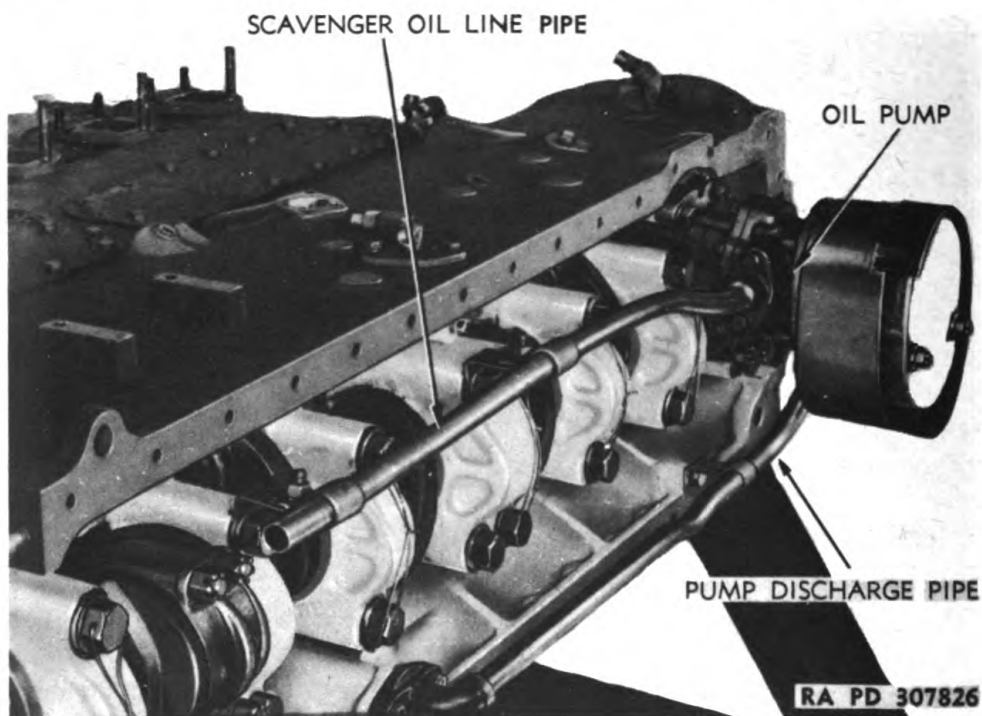

Figure 22 — Oil Pump and Pipes
c. **Remove Oil Pan and Lubricating Oil Pump** (fig. 22). Remove the 32 cap screws and lock washers attaching oil pan to crankcase and remove oil pan and gasket. Remove the two cap screws and lock washers attaching pump to crankcase. Cut lock wires on cap screws holding scavenger oil line pipe clips to main bearing caps and remove these cap screws from the clips and main bearing caps. Remove the cap screw from the pump discharge pipe clip and the two nuts attaching discharge pipe flange to crankcase and remove pump with pipes attached. Remove two cap screws and lock washers from attaching flange and remove scavenger line and gasket from oil pump. Remove two cap screws and lock washers from attaching flange and remove discharge pipe and gasket from oil pump.